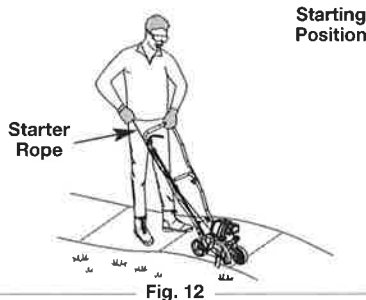

Fig. 12
WARNING: Avoid accidental starting. Make sure to be in the starting position when pulling the starter rope (Fig. 12). To avoid serious injury, the operator and unit must be in a stable position while starting.
4. Stand in the starting position (Fig. 12).
8. Stand in the starting position (Fig. 12). Tip the unit back so the blade does not touch the ground.